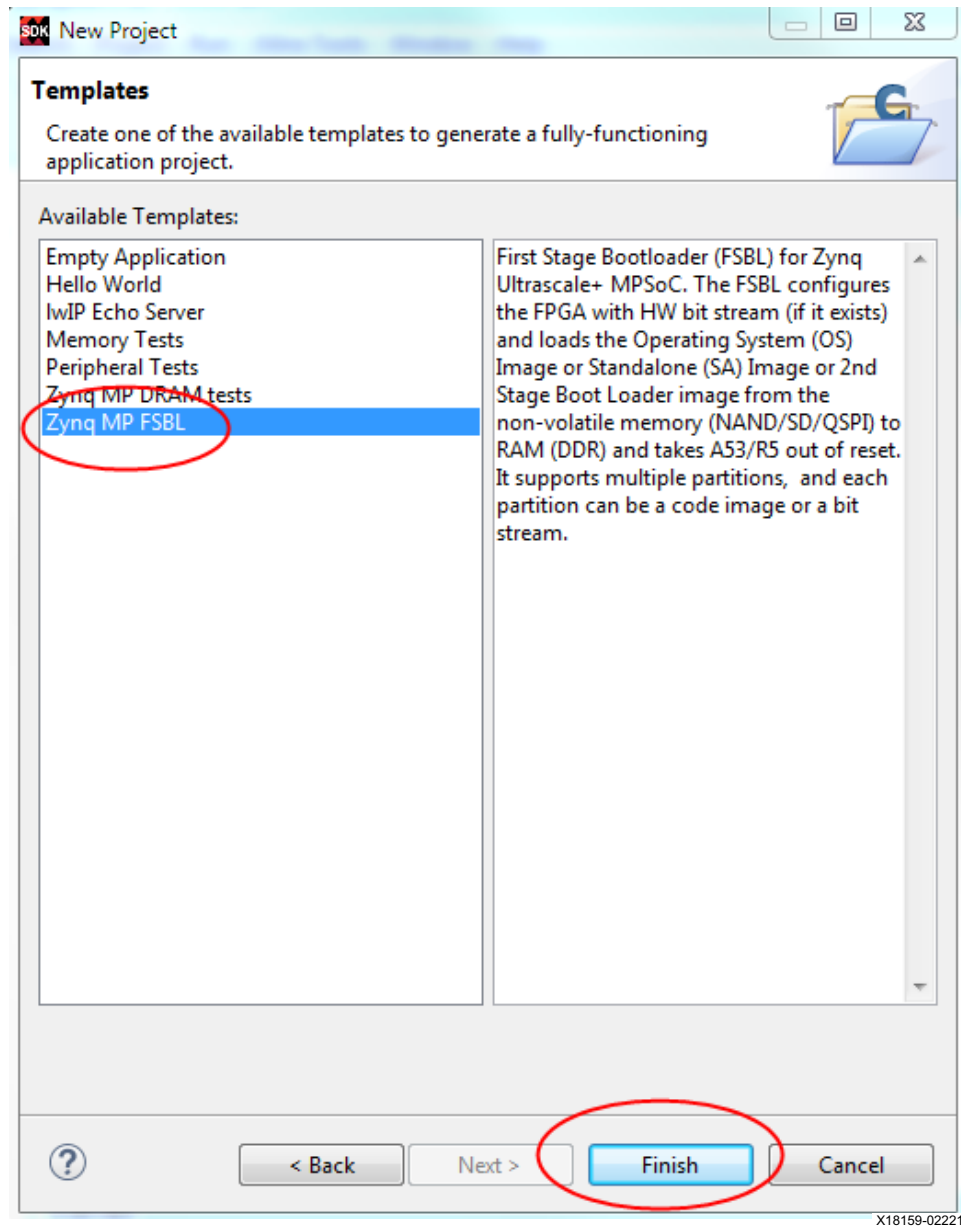

Figure 24: Design 2 - Zynq MP FSBL Template
- b. Select **Zynq MP FSBL**. Click **Finish**. See Figure 24.